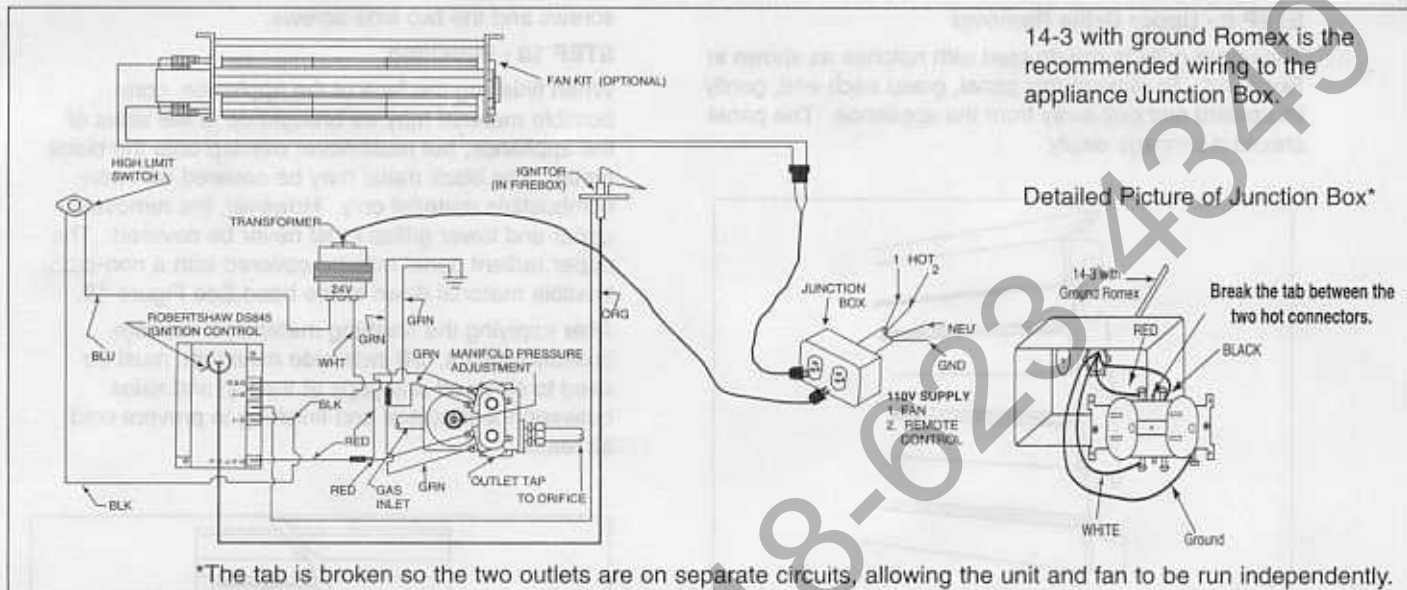

Figure 12
1. Appliance Requirements. This appliance requires a 110VAC supply from a remote wall switch to the appliance junction box for operation. A wiring diagram is shown in Figure 12. 12-3 gauge wiring with ground is recommended to the appliance Junction Box.
3. Optional Accessories Requirements. Optional accessories may be added now or at a later date, however, wiring should be done now to avoid significant wall reconstruction. The optional fan kit requires a separate 110VAC supply to the appliance junction box for operation, as shown in Figure 12. No additional 110VAC supply is required for the fan motor speed control (BC10) or the remote control (RC5) or BC11. Wiring diagrams are provided with all accessories.